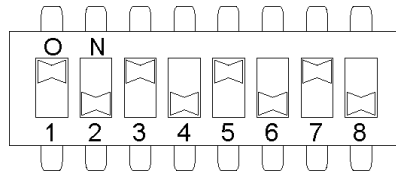

Figure 5. Switch Settings for In-Sight 1000/1010 Output-Only Configuration
- c. Move the switches to the setting for the In-Sight model and configuration you are using. Figure 5 shows the switch settings for the In-Sight 1000 and 1010 Output-only configuration.